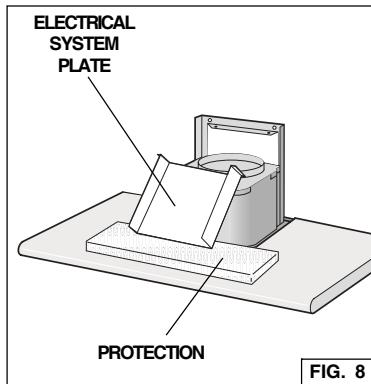

FIG. 8
2. Remove the tape on the electrical system plate; place the electrical system plate on the hood (use a protection). Fig. 8